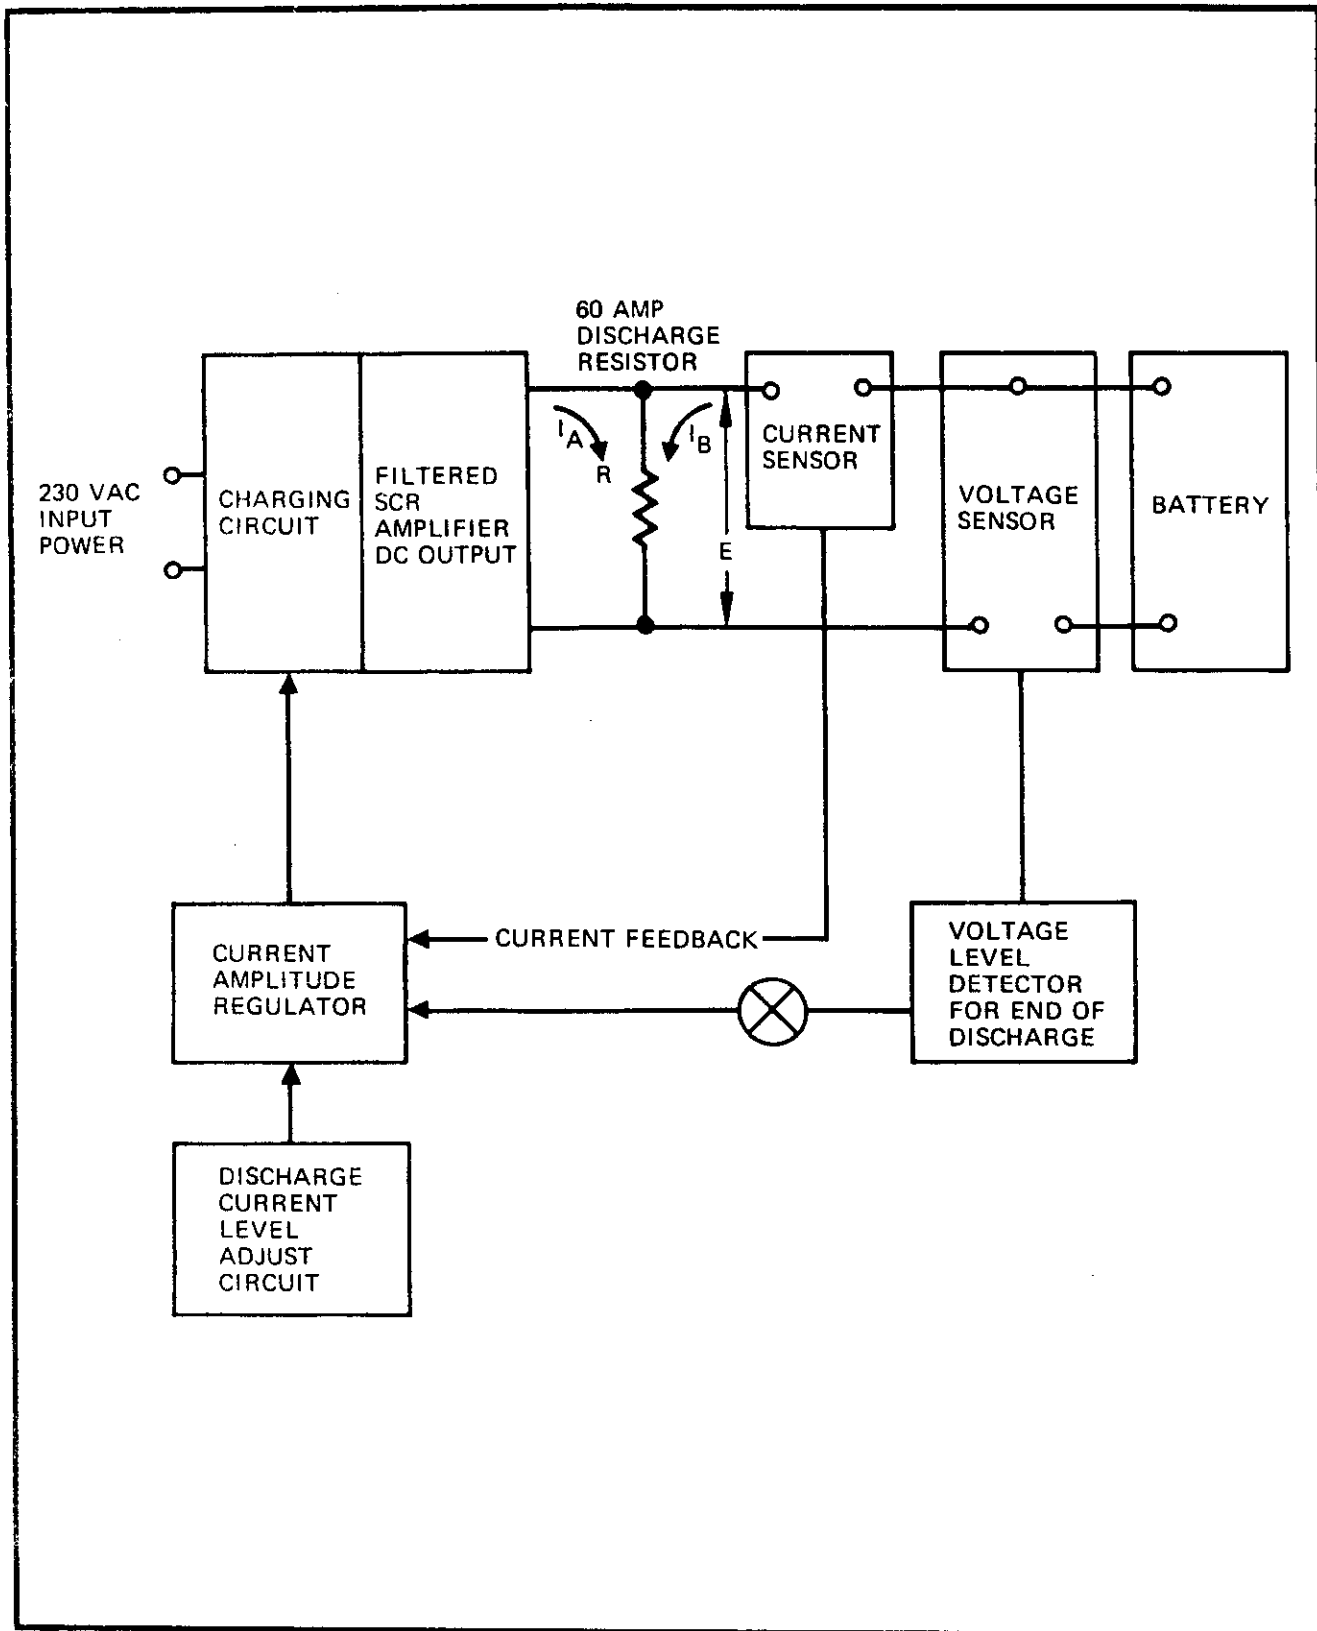

Figure 1-7. Analysis/Discharge Functional Block Diagram
- 1-33. THE ANALYSIS AND DISCHARGE CIRCUITS. Operation of the analysis and discharge circuits is based upon a constant current discharge of the battery from full charge to complete discharge to evaluate the ampere-hour capacity of the battery. Figure 1-7 illustrates the discharge circuit. The constant discharge current is set by the DISCH CURRENT ADJUST control. Actual discharge of the battery is through a large, multi-section power resistor with the rate of discharge controlled by the SCR amplifier. As shown in Figure 1-7, the current through the discharge resistor (R) is made up of the filtered SCR amplifier d-c output ( $I_A$ ) and the battery discharge current ( $I_B$ ). This total current multiplied by the resistance (R) must at all times equal the battery voltage. Therefore, the selected battery discharge current ( $I_B$ ), as sensed at the current shunt, can be held constant by automatically varying the SCR amplifier output ( $I_A$ ) as the battery voltage (E) changes during discharge. Since  $(I_A + I_B)R = E$ , the battery discharge current is  $I_B = E/R - I_A$ . For example, if battery voltage (E) equals 22 volts and R equals 1 ohm, for the battery discharge current ( $I_B$ ) to be 10 amperes the SCR amplifier output ( $I_A$ ) must be 12 amperes. When, for example the battery discharges to a voltage of 19 volts, the SCR amplifier output must become 9 amperes to maintain the 10 ampere discharge rate of the battery.